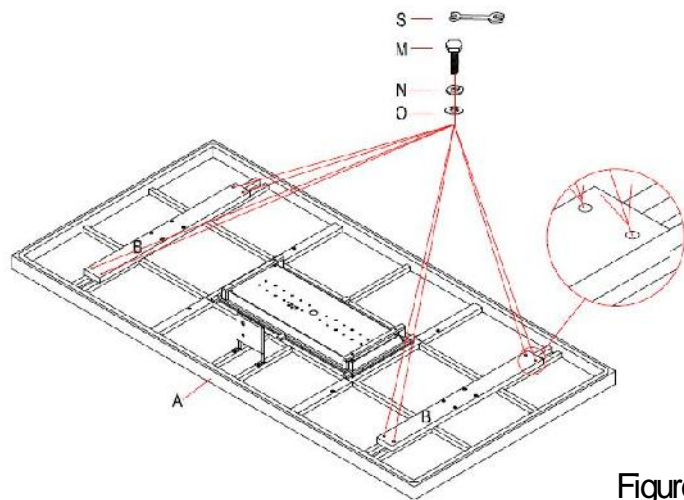

Figure 5
5. Attach the Beam (B) to Table top assembly (A) with Bolt (M) and Spring washer (N) and Washer (O) by using the Wrench (S), see Figure 5.